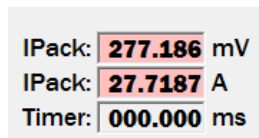

Figure 27. Invalid Current Measurements
**Note:** The values displayed in the **IPack** boxes are only accurate if there is enough current for either the Charging or Discharging bits to be set. If they are not set, the data from the IPack measurement cannot be considered reliable. In the GUI this is noted by the **IPack** boxes having a red background, as shown in Figure 27. To simulate a charge or discharge current, apply a voltage across the sense resistors by connecting a floating power supply to the CS1 and CS2 pins.